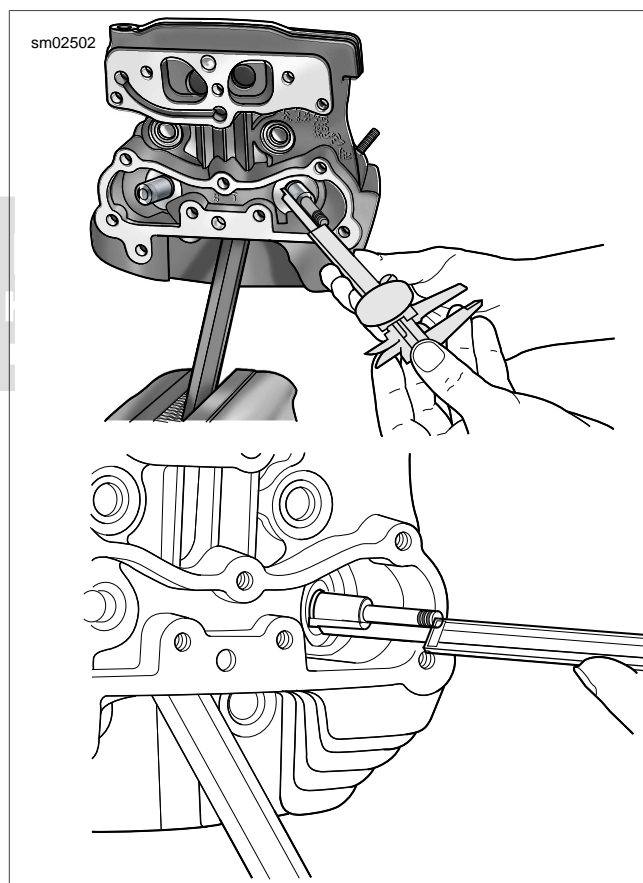

Figure 3-89. Checking Valve Stem Protrusion
- See Figure 3-89. Measure valve stem protrusion. Seat wear causes the valve stem protrusion to change.